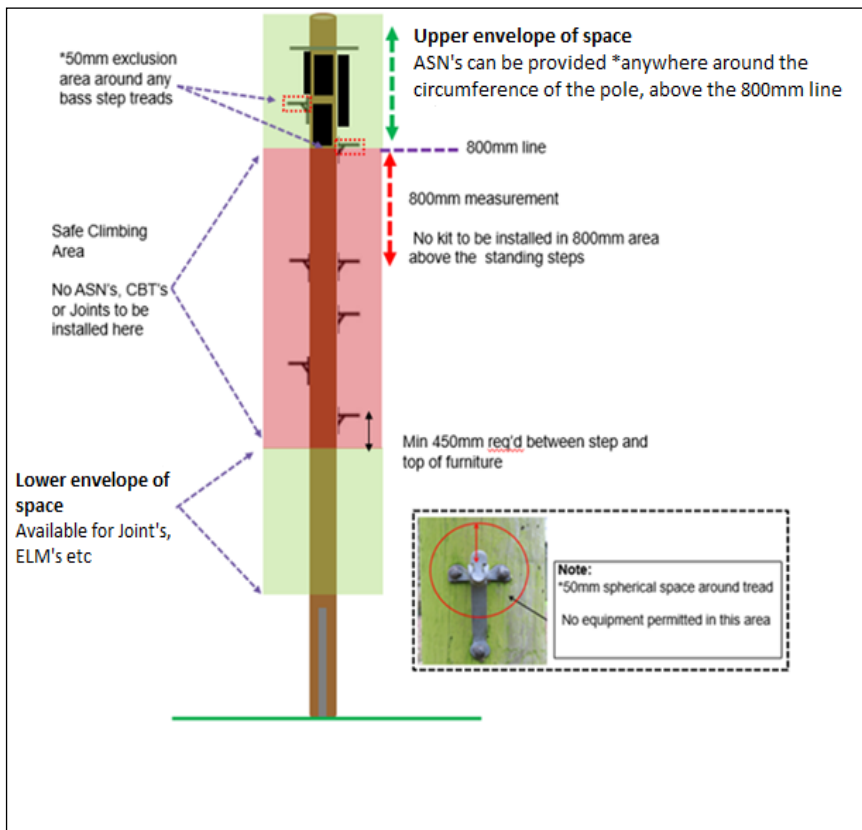

Figure 2: Permitted envelopes of space on Poles.
- New apparatus shall only be installed on the pole in the areas shown in Figure 2 below.
Note: Existing equipment installed prior to April 2020, which does not meet the requirements shown in Figure 2, may remain in situ, providing that it does not prevent a handhold of the Bass Steps (see 50mm rule in Figure 2).
- Where an CBT/Coil Bracket is used, the cable coil must be fully enclosed and not exceed the width profile of the CBT/Coil Bracket. The coil may though extend vertically beyond the CBT, providing that it remains within the upper space envelope (see Figure 2).
- Customer connectivity apparatus e.g. CBTs shall only be provided in the Upper Space Envelope (see Figure 2 below).
- Fibre locking mechanisms (ELM's) shall be located in the lower envelope of space, as shown in Figure 2.
- Where the Lower envelope is being used (for Joints, ELM's etc), a vertical clearance of 450mm must be provided between the Lowermost Climbing Step and the uppermost part of the equipment (Figure 2 refers).